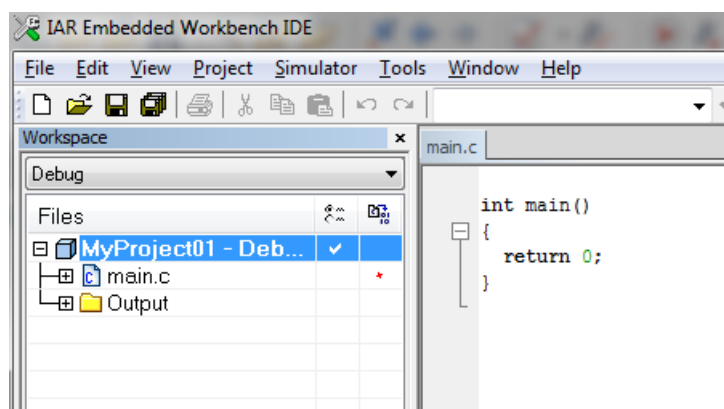

Figure 1-35. New project
4. Navigate to the folder where you want to create the project, for example, C:\IARProjects\MyProject01. Type the name of the project, for example, MyProject01. Click Save, and a new project is created. The new project is now visible in the left-hand part of IAR Embedded Workbench. See Figure 1-35.